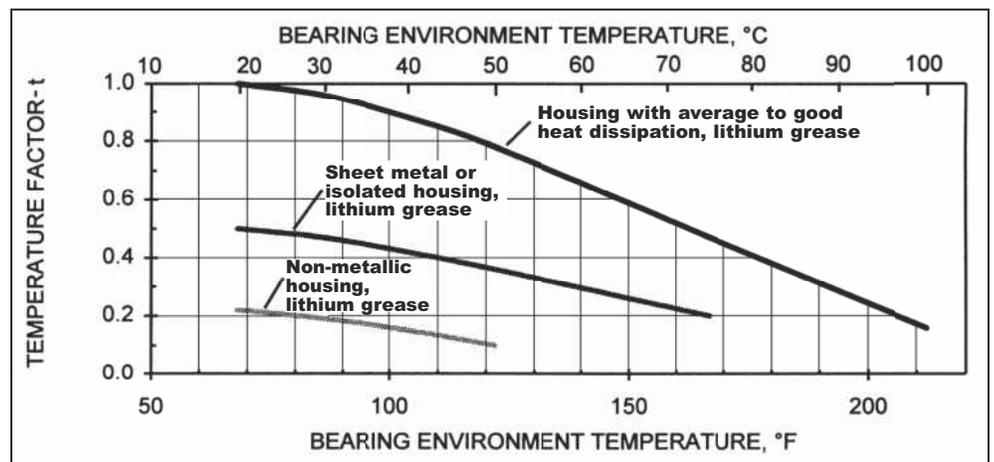

Figure 5-6. DX Environmental Temperature Factor – t
- $t$  = operating temperature factor, Figure 5-6
The effect of environmental temperature and basic type of grease lubricant is shown by application factor, t, as shown in Figure 5-6. The heat dissipating properties of the housing, especially if the bearing is mounted in an area close to an engine or other heat generating unit, affect bearing surface temperature and are particularly important at high pU values. When the temperature approaches the top limit of 265°F (130°C), consult our Application Engineering Department.